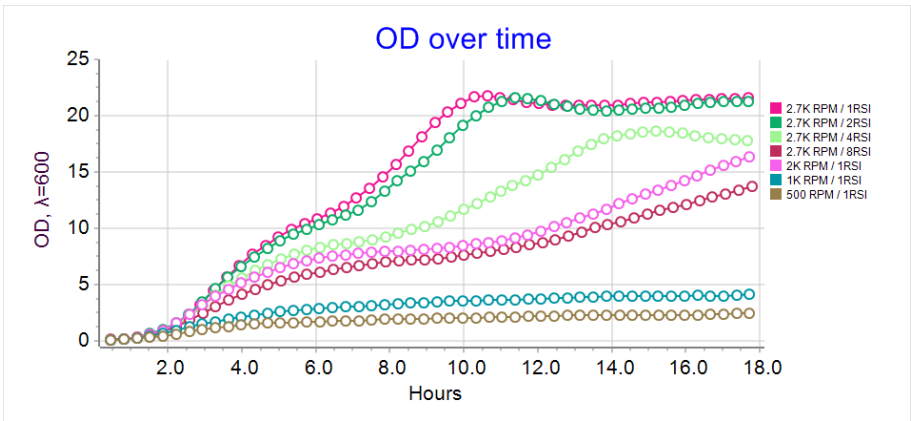
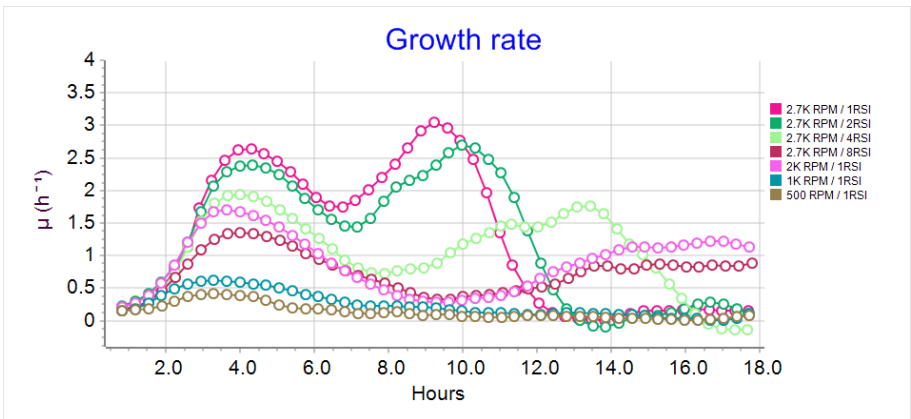

Figure 5. Influence of Interval of Reverse Spinning and RPM on the Growth kinetics ($\Delta OD_{\lambda=600nm}/\Delta t$) vs Time of fermentation (h).
Figure 6. Influence of Interval of Reverse Spinning and RPM on the Growth kinetics ($\Delta OD_{\lambda=600nm}/\Delta t$) vs Time of fermentation (h).
- 8.2 **Cell growth depending on rotation intensity.** It is known that aeration affects the growth and growth rate of aerobic microorganisms. The RSI and RPM affect the rate of oxygen uptake in the bioreactor. Results obtained in fig. 5 and fig. 6 indicate that the maximum rate of cell division is detected at RSI of 1 s^{-1} at a speed of 2700 rpm. The increase of pause between reverse spins reduces cell growth rate and OD yield, reaching ~44% of the maximum value (RSI 1 s^{-1}), when RSI is 8 s^{-1} .
- 8.2.1 Legend of experiment (fig. 5.): Multi-channel bioreactor RTS-8 was used with 850 nm laser, volume of Terrific Broth (TB) in 50 ml Falcon tube was 10 ml, RSI 1, 2, 4, 8 s^{-1} , MI 10 min, RPM 2000, temperature 37°C , TPP Bioreactor vessels.